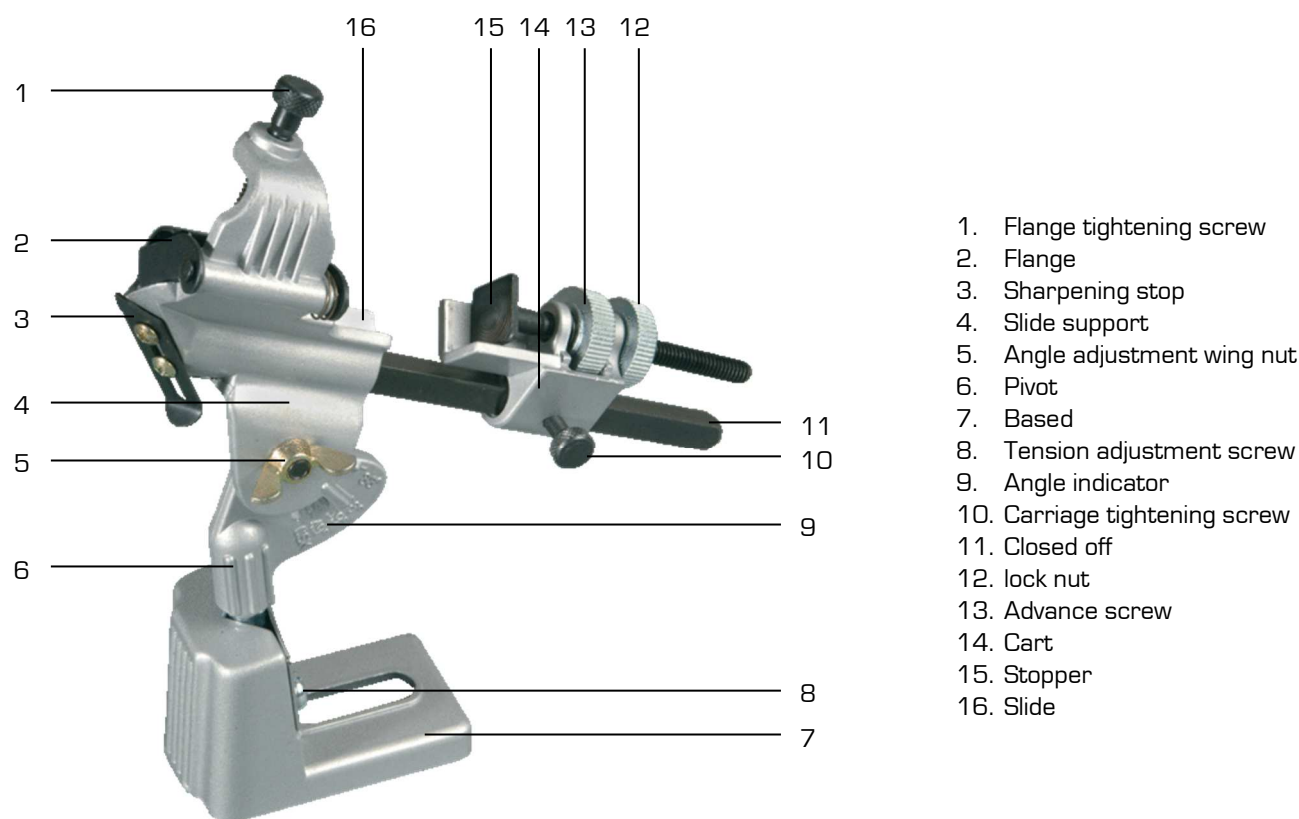

Figure 1
1. Remove the slide support [4 fig.1] from the base [7 fig.1] by unscrewing the angle adjustment wing nut [5 fig.1].
2. Place the bit in the slide [16 fig.1]. Adjust the sharpening stop [2 fig.1] so that it rests against the cutting angle of the bit. Adjust the length of the drill using the feed screw [13 fig.1] against the stop [15 fig.1] to hold the drill properly in position, considering the protrusion of the drill. Tighten the lock nut [12 fig.1] to keep it in this position. Tighten the flange [2 fig.1] using the screw [1 fig.1] and fix the sharpening stop [3 fig.1] correctly.
3. Replace the slide support [4 fig.1] by adjusting the angle indicator [9 fig.1] to the desired sharpening angle.
4. Using the oblong hole in the base [7 fig.1], approach the sharpener until the tip of the bit is about 0.5 mm from the side face of the grinding wheel. Tighten the base [7 fig.1] using a bolt with a washer and a nut.
5. When sharpening, proceed with small successive strokes from front to back using the pivot [6 fig.1]. If
it pivots with difficulty, slightly loosen the tension adjustment screws [8 fig.1].
6. Gradually approach the bit using the feed screw [13 fig.1] until the entire lateral surface of the bit is in contact with the grinding wheel.
8. To sharpen the second face of the bit, pivot the slide support [4 fig.1] to move it away from the grinder. Loosen the bit clamp [2 fig.1], turn the bit in the guide [16 fig.1] until the opposite cutting angle comes against the sharpening stop [3 fig.1]. Tighten the flange [2 fig.1].